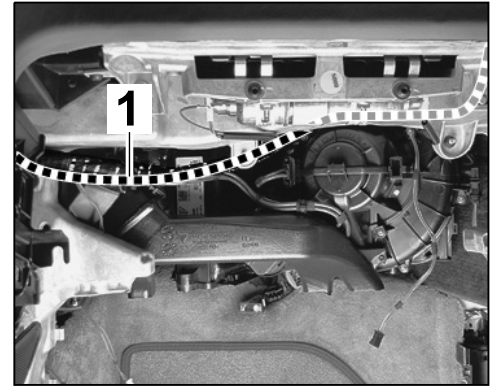

Figure 11
2.3.2 Route GPS antenna line ⇒ *Figure 11 -1-* along the wire harness for the dashboard (glove compartment).